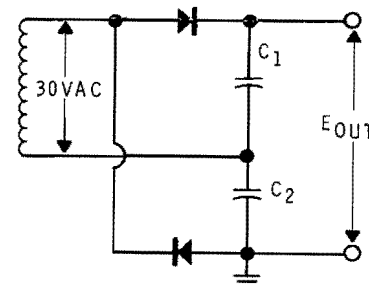

Figure 4-66
4. Refer to Figure 4-66.  $E_{out}$  will have an average value of:
- D. Figure 4-66.